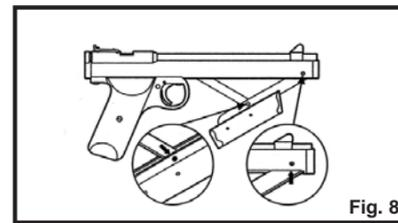

Fig. 8
- Your airgun will maintain proper function longer if you oil it every 250 shots. Put 1 drop of Crosman 0241 Pellgunoil® on the pump lever pivot and rivet (see Fig. 8).